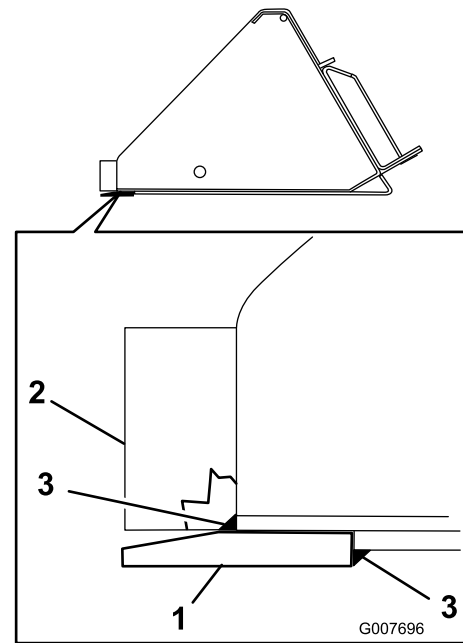

Figure 2
- For models 22422 and 22520, use a 3/16 inch (0.5 cm) fillet weld (Figure 2).
- For models 22422 and 22520, clamp the blade so that it lines up with the side blades and is tight against the plate on the bottom of the bucket (Figure 2).